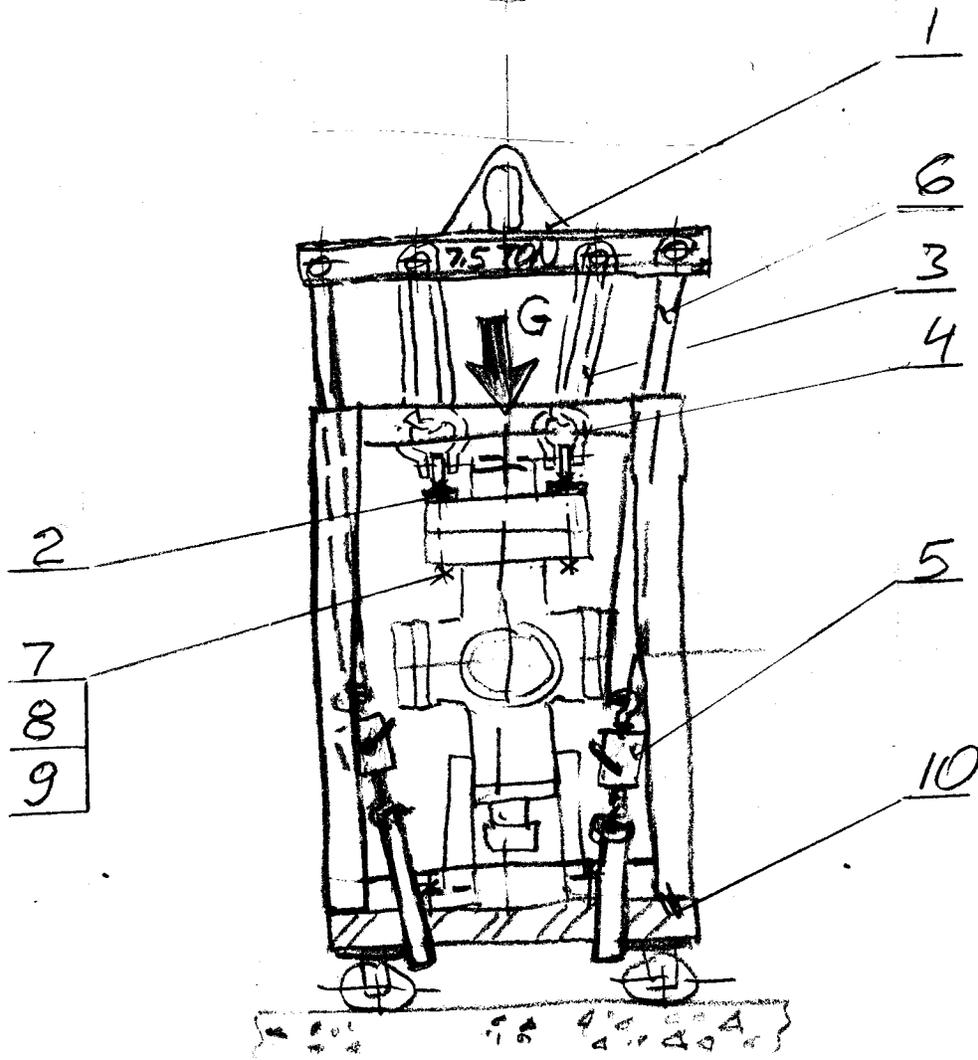

FIG. 2
THE 1 LITER BUBBLE CHAMBER APPARATUS IS BOLTED TO THE STEEL PLATE OF THE "UNISTRUT-INSTALLATION CART" ASSEMBLY (ITEM 10) FIG. 2. DUE TO UNKNOWN RATING OF THE CONNECTION OF THE BASE PLATE TO SUPPORTIVE LEGS, THE HANDLING WILL INCORPORATE TWO PARTS:
TO CARRY THE LOAD OF "APPARATUS", (2) "TOP LIFTERS" WILL BE BOLTED ON THE TOP FLANGE AS SHOWN ON FIG. 2.